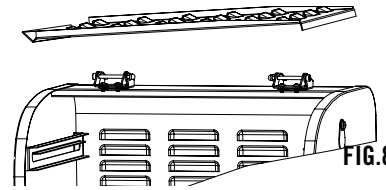

FIG. 9
1. Install the Drip Tray as shown in Fig 8 and Fig 9.